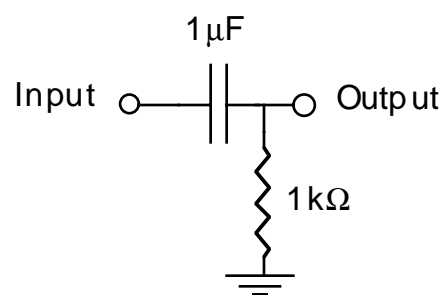

Fig 3
2) Connect the circuit in Fig. 3, and repeat the measurements above. *Sketch the waveforms at the different frequencies.* Note that Figs. 2 and 3 can both be considered as voltage dividers, similar to the circuits in Figs. 2 and 3 in Experiment 2. At very short times the capacitor looks like a short circuit, or a closed switch. At long times the capacitor looks like an open circuit, or an open switch. Using this model of a capacitor is a good way to understand the circuit response at short and long times.
4) Repeat the frequency measurements with the circuit in Fig. 3. This is a "high pass filter," so that the response is lower at lower frequencies. **Lower frequencies correspond to longer times.** At the lower frequencies the impedance of the capacitor increases, so the attenuation of the circuit in Fig. 3 gets greater. In addition, a phase shift develops between the output and the input waveforms. As in Part 3, measure the output of the circuit for a 1 volt p-p input for about 10 frequencies between 50 Hz and 500 Hz. *At what frequency is the signal reduced to 0.7 of its original amplitude? What is the phase shift at this frequency? What is it at much lower frequencies?*